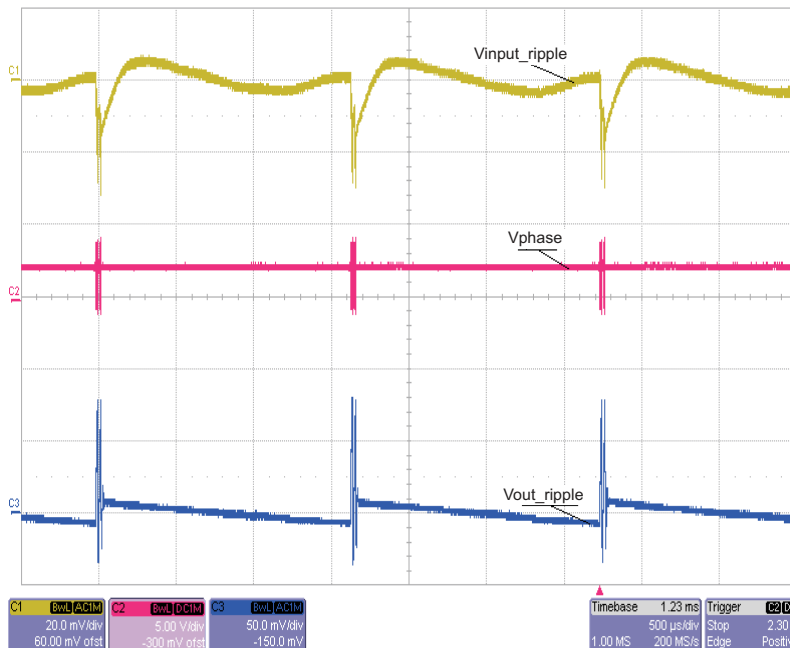

Figure 5. SNOOZE Mode. $V_{in} = 4\text{ V}$, $V_{out} = 2.5\text{ V}$, $I_{out} = 3\text{ mA}$; CH1 = Input Ripple; CH2 = Phase; CH3 = Output Ripple
7. Reduce load to 825 Ω (~3 mA), and set CH2 to 5 V/div (see Figure 5).